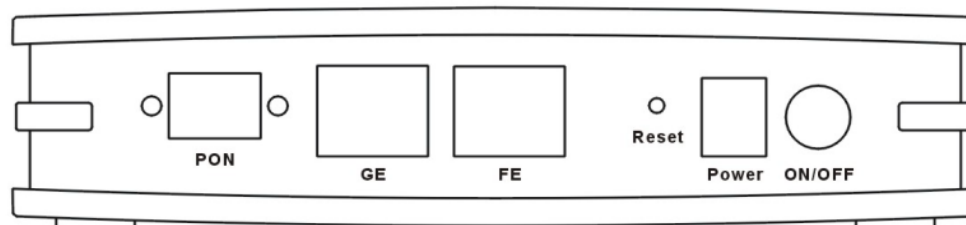

Figure 1
As shown in Figure 1, GONU11B ONU provides one PON interface (PON), one 10/100/1000 BASE-T interface (GE), one 10/100 BASE-T interface (FE), one reset button (RESET), one power socket (POWER) and one power button from left to right on its rear panel.